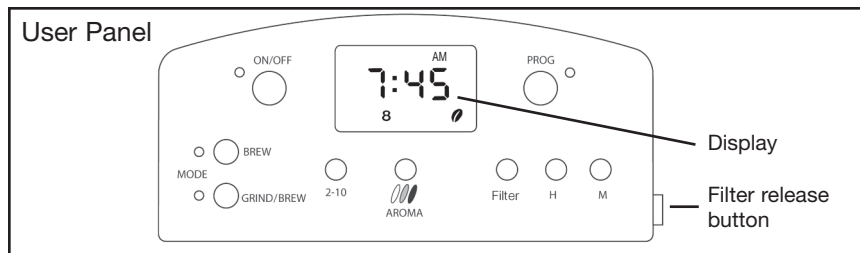

Fig. 2
| 3. Filter holder | 10. User panel (Fig. 2) |
- Push the BREW button, then the ON/OFF button (Fig. 2). The machine starts processing the water into the carafe.
Plug in machine. The display shows “0:00” blinking and either the “BREW” or the “GRIND/BREW” light is illuminated (Fig. 2).